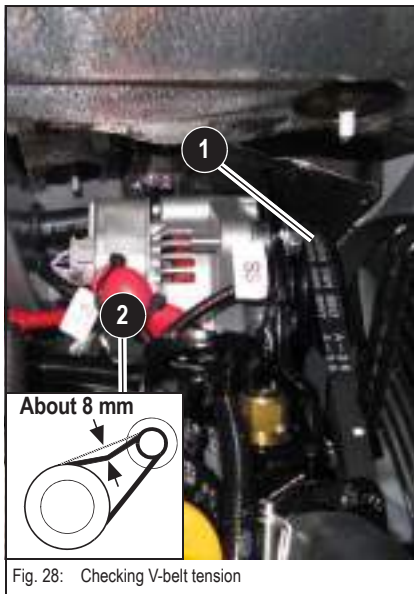

Fig. 28: Checking V-belt tension
- Otherwise, deflection should be 7 to 9 mm (0.27 to 0.35”) after about 5 minutes running time (see Fig. 28/2).